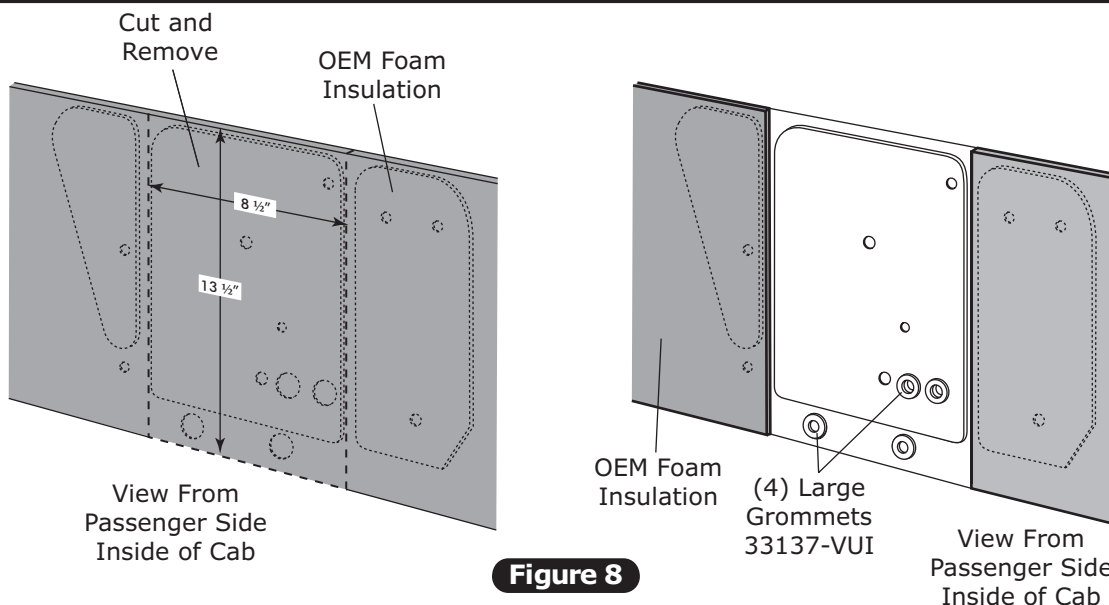

Figure 8
1. Cut & remove OEM foam insulation as shown in Figure 8, below.
2. Install (4) large grommets as shown in Figure 8, below.